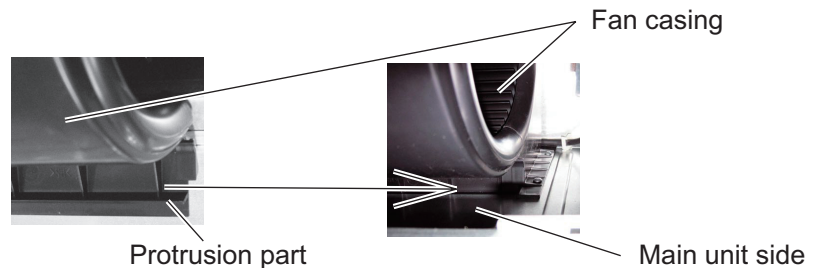

**Fig. 7**
4. Remove the bottom plate. (Fig. 7)